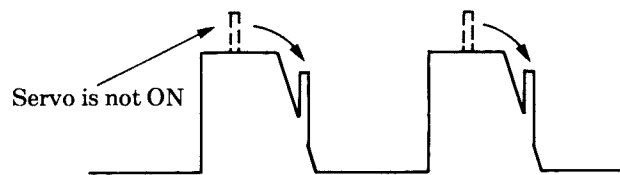

Fig. 74
8. Fully turn R1120 clockwise, and then gradually return it counterclockwise to set it just after the pulse of TP24C locks on trapezoid waveform of TP25C as shown in Fig. 74.